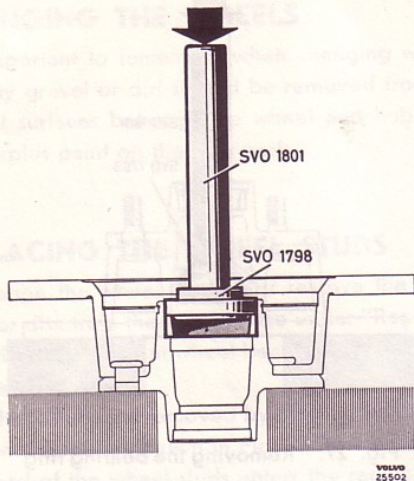
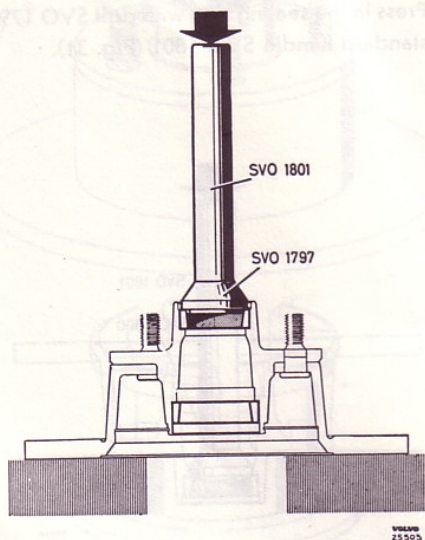

Fig. 29. Fitting the inner bearing ring
Fig. 30. Fitting the outer bearing ring
6. Press in the new bearing rings. In addition to standard handle SVO 1801, use drift SVO 1798 (Fig. 29) for the inner bearing ring and for the outer bearing ring, drift SVO 1797 (Fig. 30).